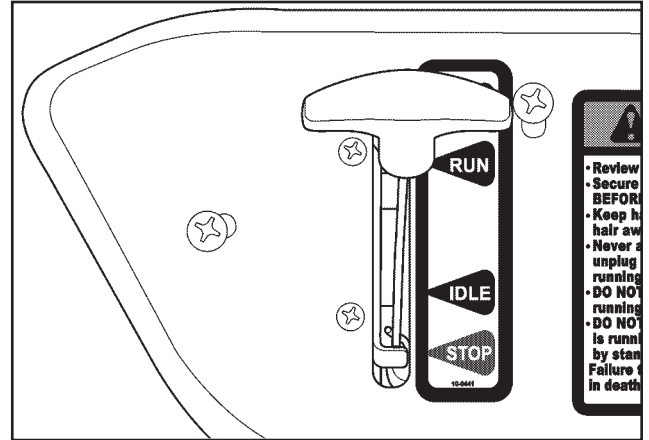

FIGURE 10 Run Position
4. When the engine starts, position the throttle to the RUN position for 30 seconds to allow the engine to warm up (See Figure 10).
6. Move the throttle to the RUN position when operating the machine (See Figure 10).
4. Move the throttle to the RUN position when operating the machine (See Figure 10 on Page 7).